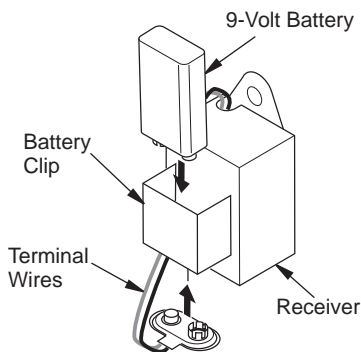

Figure 16 - Installing Battery in Receiver
5. Locate battery clip mounted on back of receiver (see Figure 16).
7. Attach terminal wires to battery (see Figure 16).